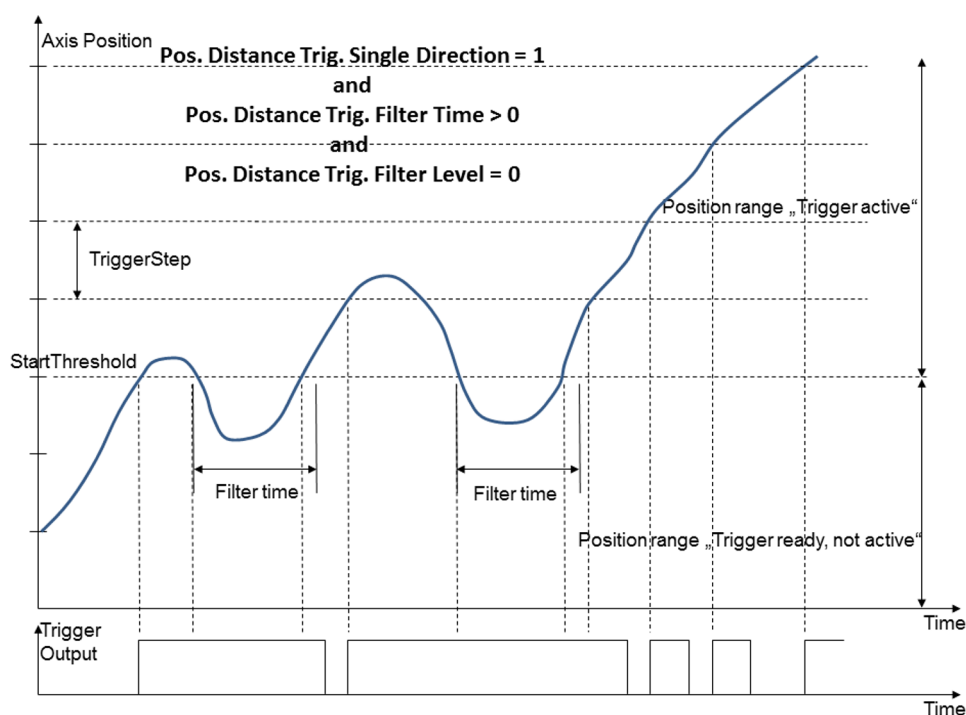

Figure 25: "Position Distance" Trigger Mode with threshold settings, with time filter
- The **Pos. Distance Trig. Filter Time** parameter (0x18000301) specifies a time filter. The time filter is used to delay the trigger deactivation when the axis position falls below the start threshold due to noise (Figure 25). The time value is given in seconds. Recommended minimum value: period of the noise signal. Default value: 0 (= filter deactivated)